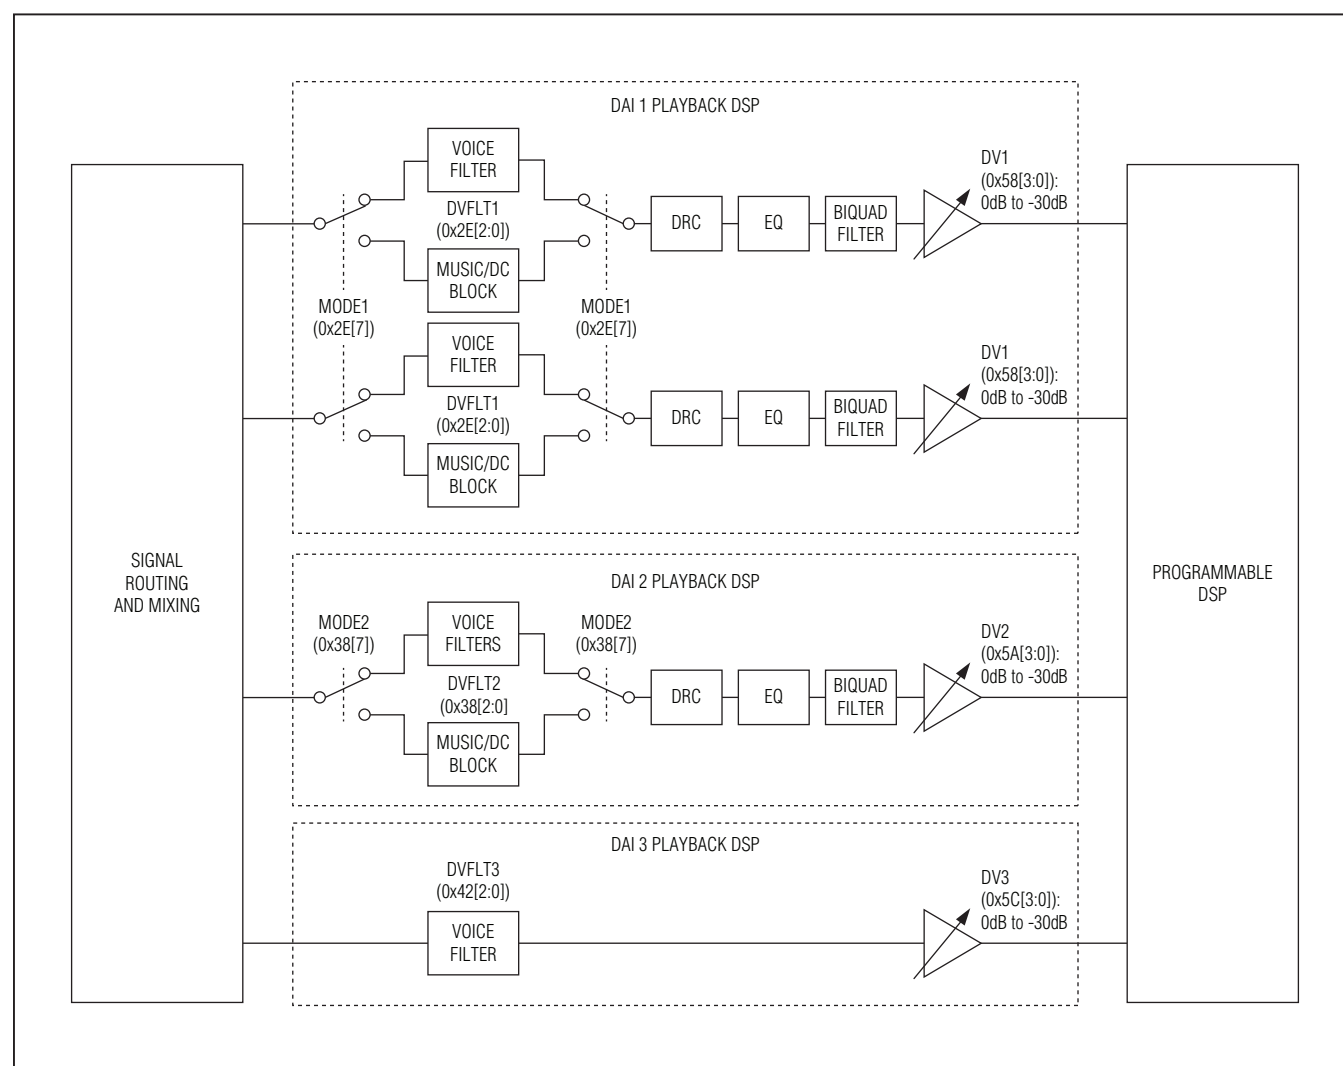

Figure 18. Fixed Function Playback Signal Processing
The playback signal path includes separate processing for each of the three paths. Signal processing features include voiceband filters, dynamic range controller (DRC), a five-band parametric equalizer (EQ), two biquad filters, and programmable attenuation. Figure 18 shows the complete signal path.